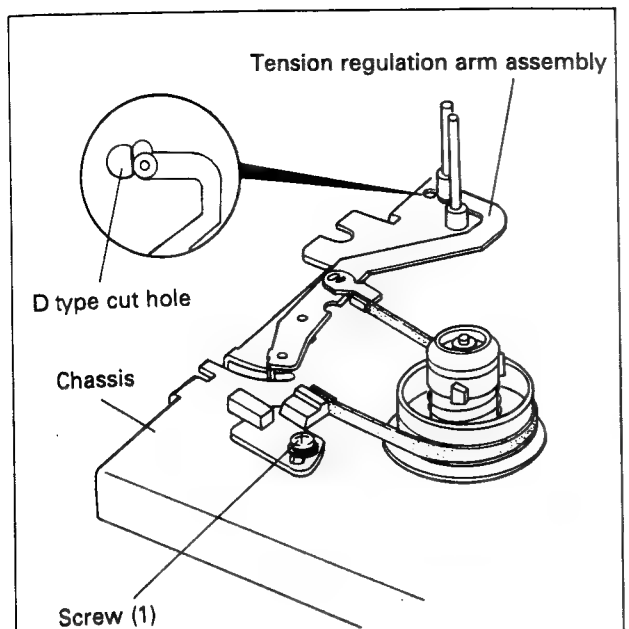

Fig. 1-23-1
- (1) Set the unit to the PLAY mode with a cassette unloaded.
- (2) Mount and fix the tension regulation arm assembly with screw (1) so that its end just overlaps D-form cutout provided on the chassis as shown in Figure 1-23-1.